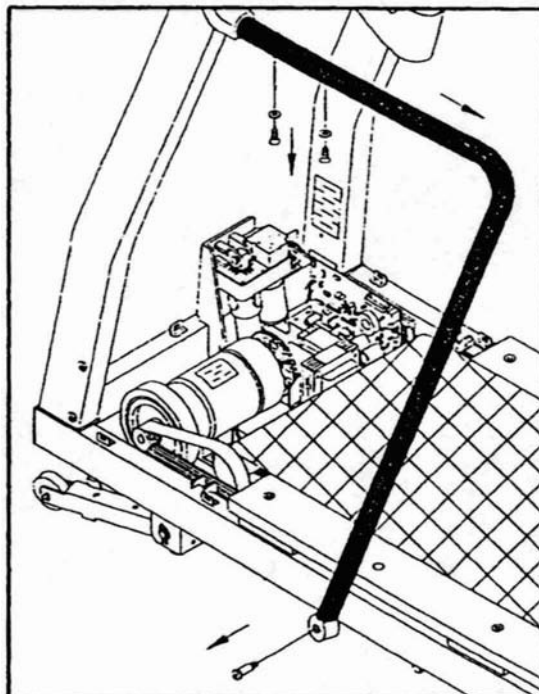

Fig.7
8.Loosen screws and remove one side of handlebars. (see Fig.7)